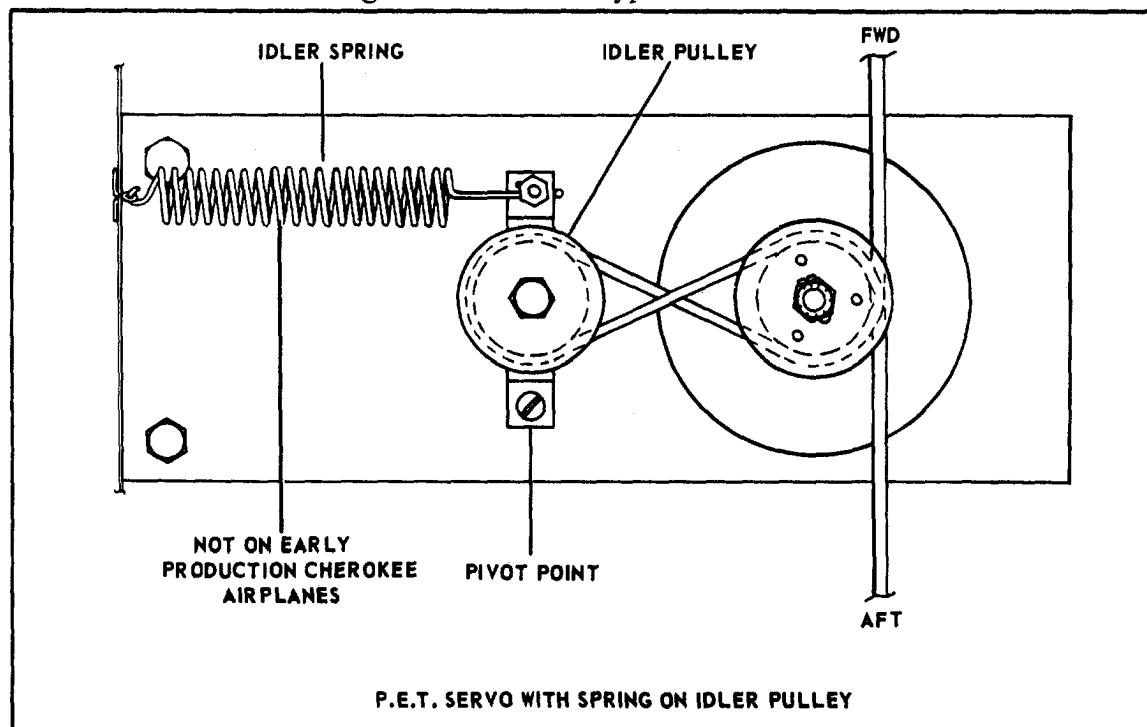

Figure 3-6. PA-28 Trim Servo Cable Routing
3-19. INSTALLATION OF TRIM SERVO. (PA-28) (Refer to Figure 3-6 or 3-7.)
- c. On PA-28-150, PA-28-160 and PA-28-180 airplanes with serial numbers 28-2172 to 28-4377 inclusive; PA-28-235 airplanes with serial numbers 28-10606 to 28-10719 inclusive; and PA-28-140 airplanes with serial numbers 28-20002 and up, (refer to Figure 3-6), route the trim cable from the forward section of the airplane around the top capstan groove, around the aft side of the idler pulley located in the center of the servo, around the bottom capstan groove toward the aft section of the airplane until cable forms a figure eight. Proceed to step "e".